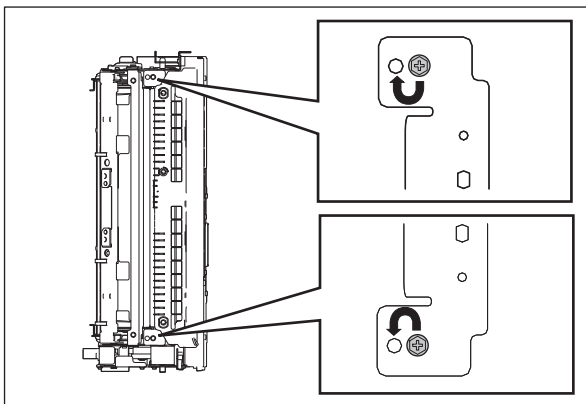

Fig.8-98
1. Adjust the entrance guide of the fuser unit and check if the paper wrinkle disappears. (Fig.8-98)